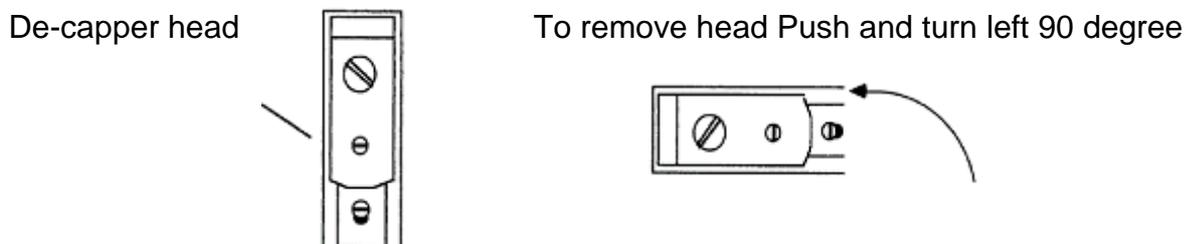

Figure 5: Removal of de-capper head
- Push de-capper head and turn left (90 degree counter clockwise). See figure 5.